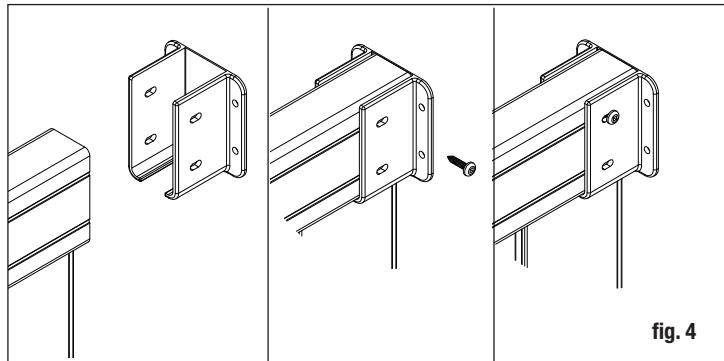

fig. 4
- While holding the bracket in place, attach one screw into one of the slotted holes. Place the screw at the end of the slot closest to the mounting face of the bracket (fig. 4).